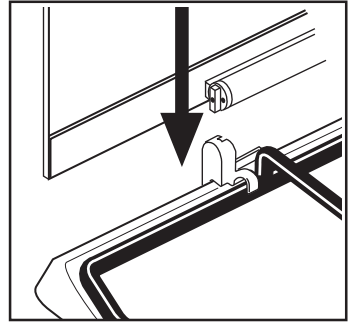

Fig. 6
- c. Fit the left hand lid hinge (marked S) into the hinge block (Fig. 6);